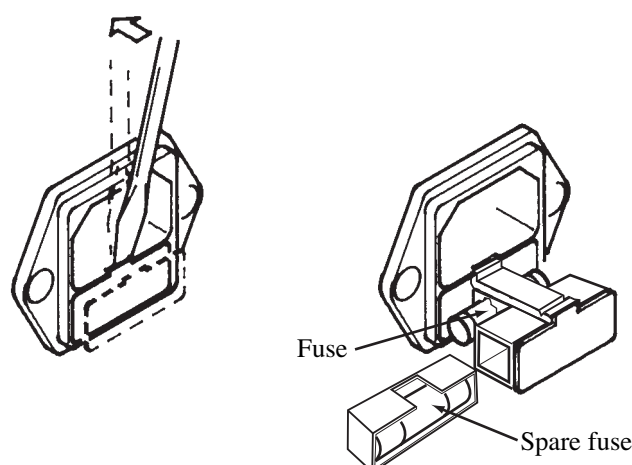

Fig. 7-1 Removing the Fuse Holder
3. Use a screwdriver to remove the fuse holder, as shown in Fig. 7-1.